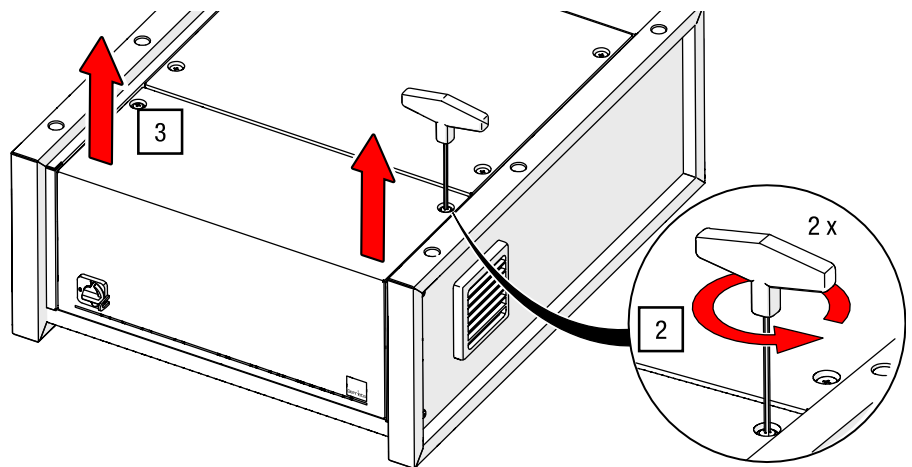

Fig. 89: Loosen and lift control panel (control unit model may vary)
G-FRAME control	- The control panel is on the front side of the lying control (see Fig. 89). - The control is disconnected from the mains
5. Loosen the control panel with the Allen key AF 3 on both sides (see Fig. 89).
6. Lift the control panel from the control unit housing (see Fig. 89).